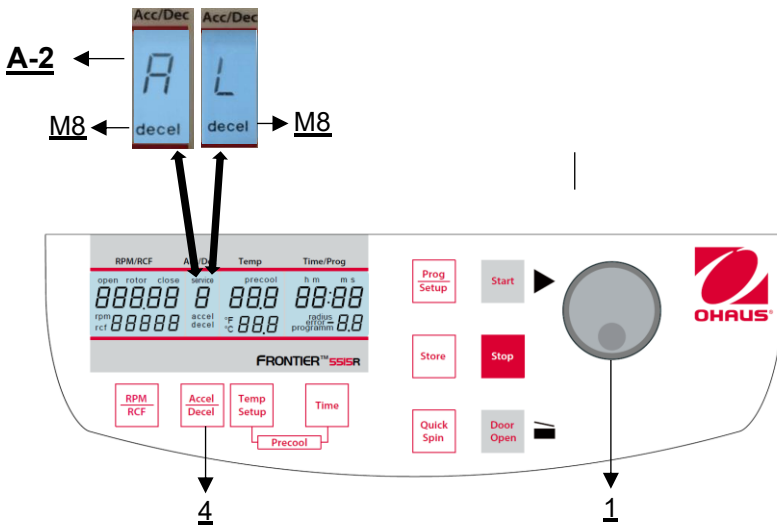

Figure 18
If the "Accel/Decel" (4) key is pressed three times, the word "decel" (M8) flashes in the "Acc/Dec" (A-2) display field. Now the desired braking curve can be preselected with the adjusting knob (1) (see Figure 18). The code letter "L" stands for a linear braking curve. This means that the rotor is braked evenly during the entire braking phase. The braking curve with the code letter "A" allows a smooth braking. Its braking rate (rpm/s) is dynamically adjusted, which means that sensitive samples are only slightly swirled during the braking phase. This leads to a better separation result.